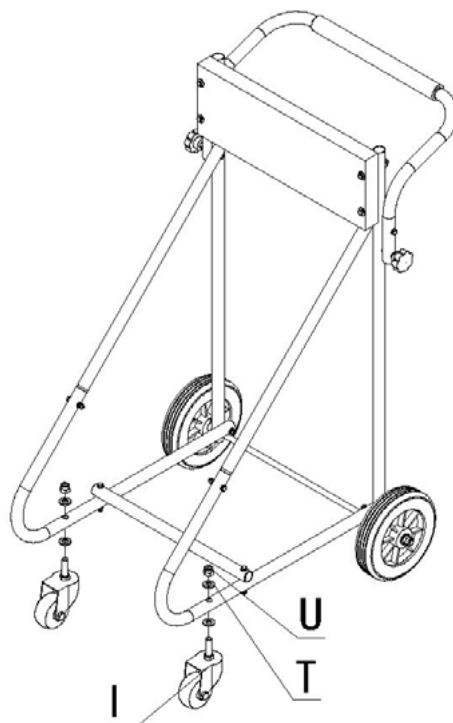

FIG. 7.
Step 7. Connect the universal wheel (I) through 12 washer (T), M12 lock nut (U).SEE FIG. 7.